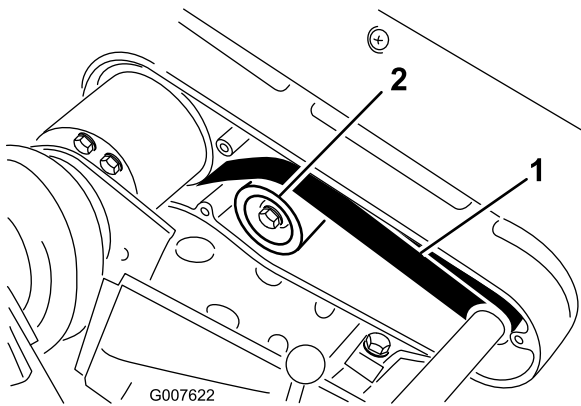

Figure 38
2. Check the tension by pressing the belt at mid span of the pulleys (Figure 38) with 22 to 26 N (5 to 6 lb) of force.
- A. Loosen the idler pulley mounting nut and pivot the idler pulley clockwise against the backside of the belt until the desired belt tension is attained (Figure 38).